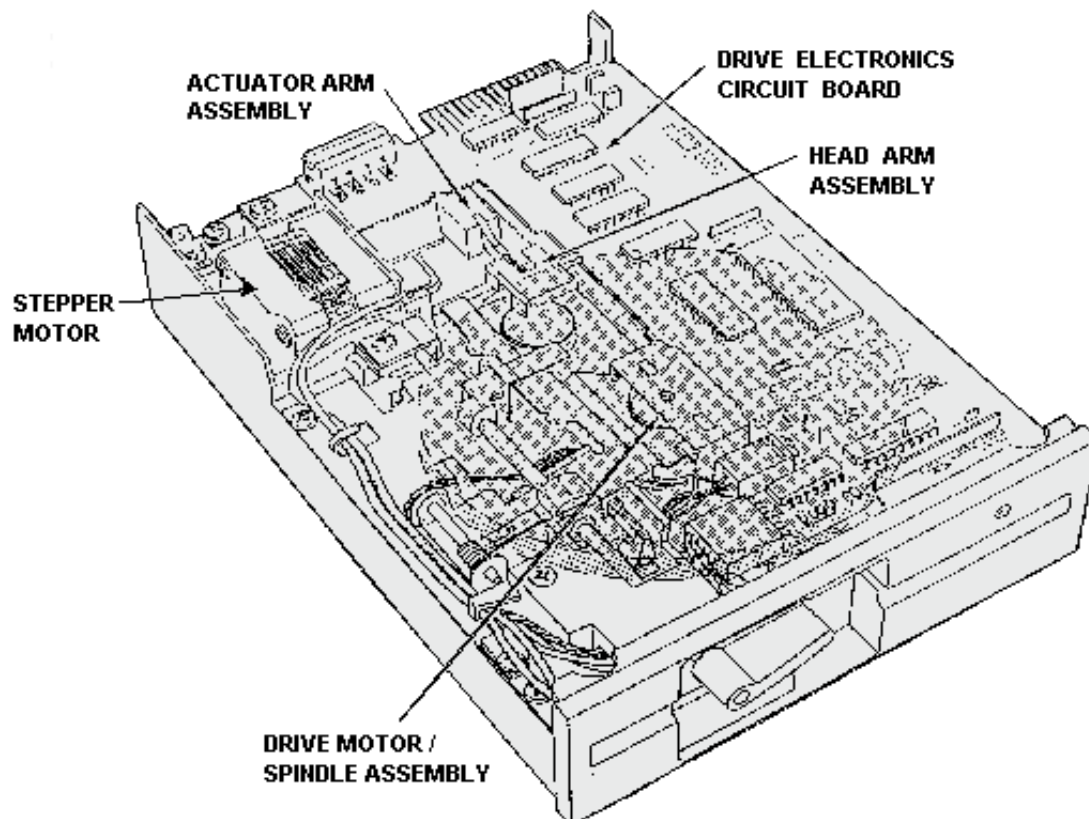

Figure 8-9.—Typical floppy disk drive transport.
Floppy disk drive transports contain the electromechanical parts that (1) rotate the floppy disk, (2) write data to it, and (3) read data from it. Figure 8-9 shows a typical floppy disk drive transport. Four of the drive transport's more important parts are the